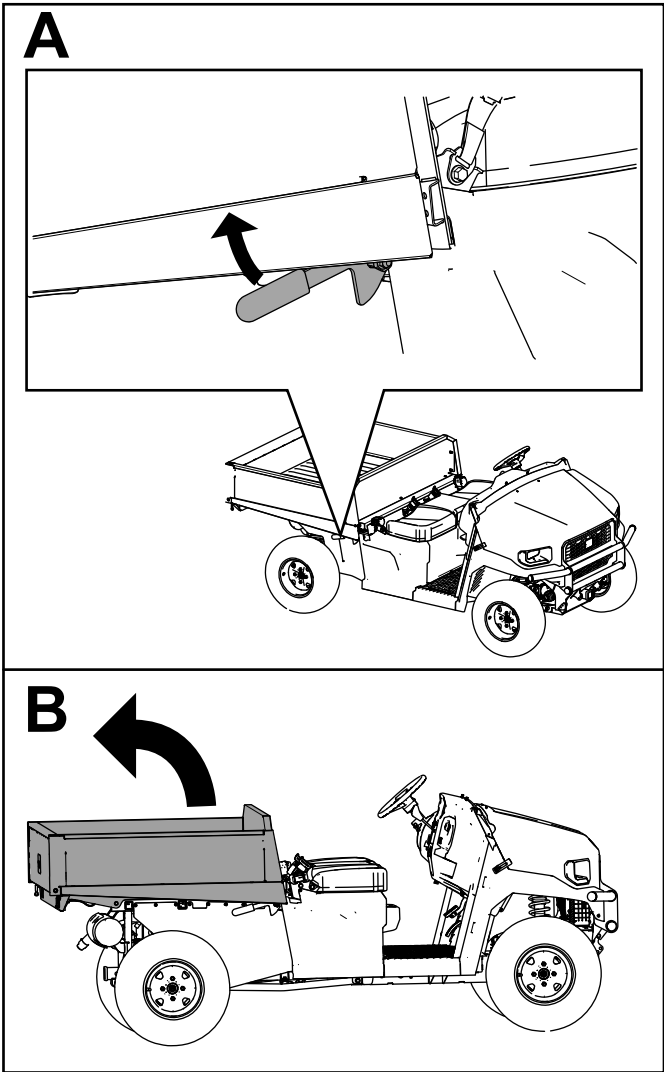

Figure 7
1. Raise the cargo bed (Figure 7).